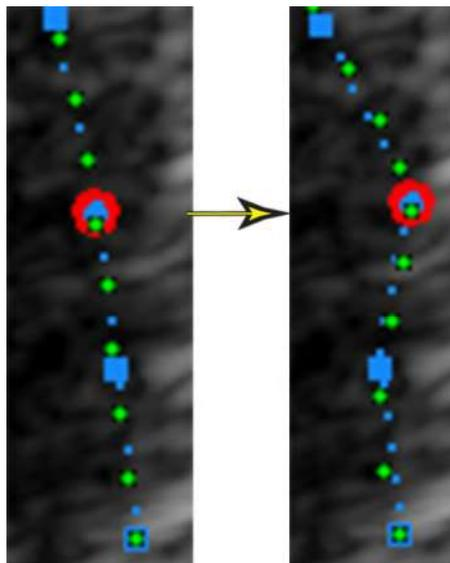

Figure 10-4. Selected anchor point on the inner border trace
2. If required, move the trackball cursor over the border trace, select an anchor point (red circle), press SET and correct the trace by dragging the anchor point to a new location (Figure 10-4 on page 10-27). The shape of the border trace will update accordingly.